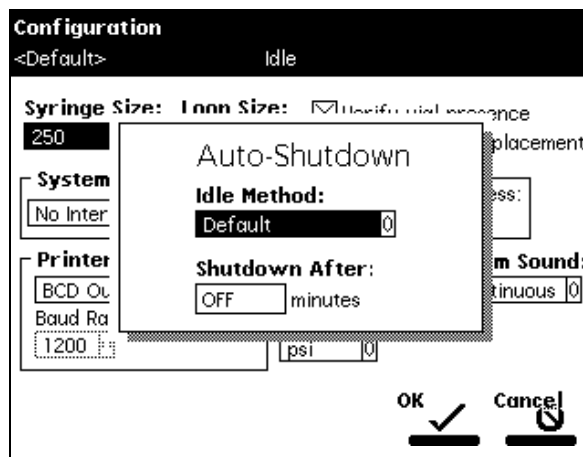

Figure 2-5 Auto-Shutdown Dialog Box
2. Press the **Auto Shutdown** screen key. The Auto-Shutdown dialog box appears (Figure 2-5).